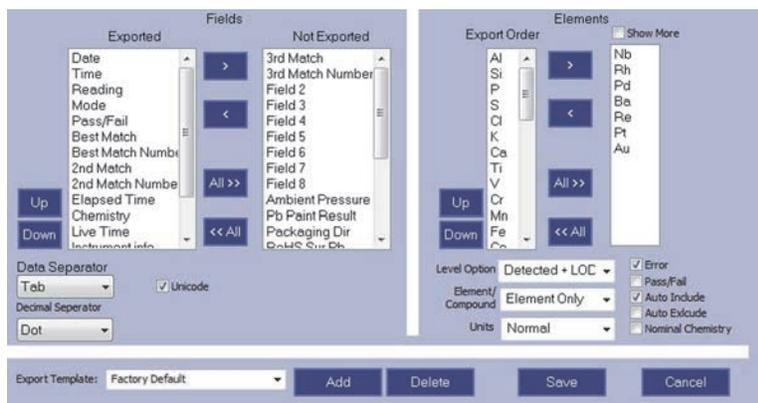

Figure 1-30 The Customize pane
1. On the **Result Export** tab, click **Customize** to display the Customize pane (see Figure 1-30 on page 24).